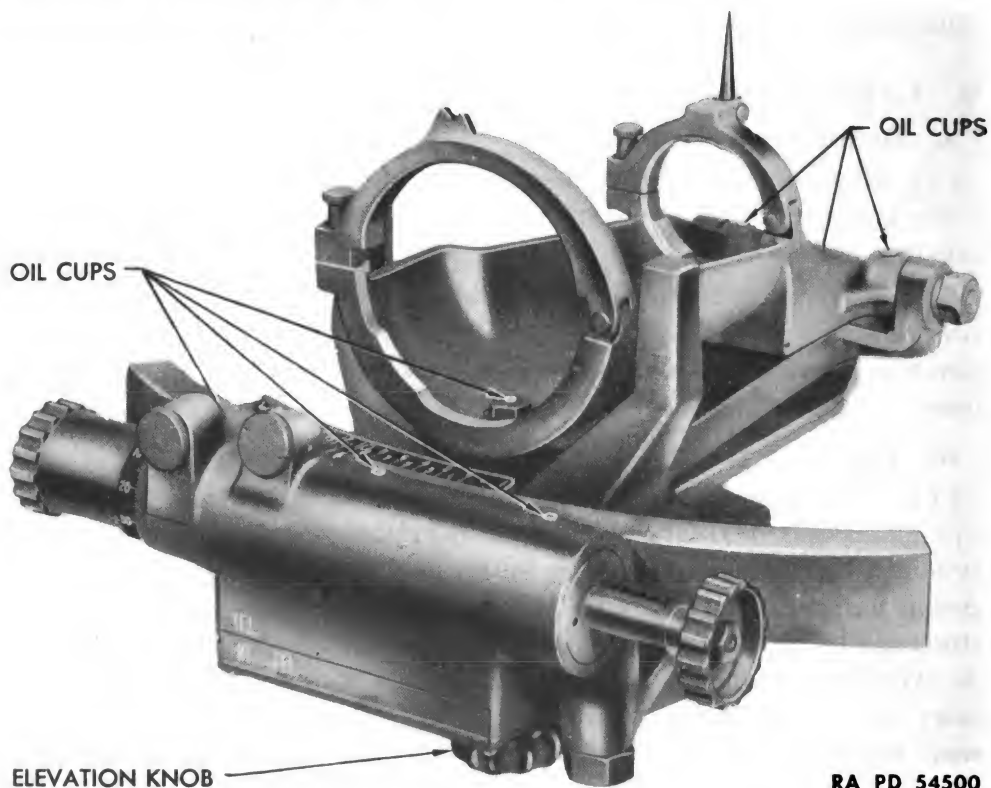

Figure 16—Telescope Mount M35—Oil Cups
f. Oil Cups. The location of the oil cups on the telescope mount is shown in figure 16.
b. **Oil Fittings.** Oil fittings should be undamaged. See figure 16 for location of oil cups.
(1) With telescope clamped in the cradle, sight on a well defined distant point. Rock the cradle in the guides to determine play. The vertical cross wire should not move off the point in either direction more than the width of the vertical cross wire. If movement exceeds this, it will be necessary to replace the gear segment or cradle. See paragraph 22 b for further inspection and replacement.
(2) Raise and lower the cradle to determine if binding exists. See paragraph 22 b for adjustment for binding.